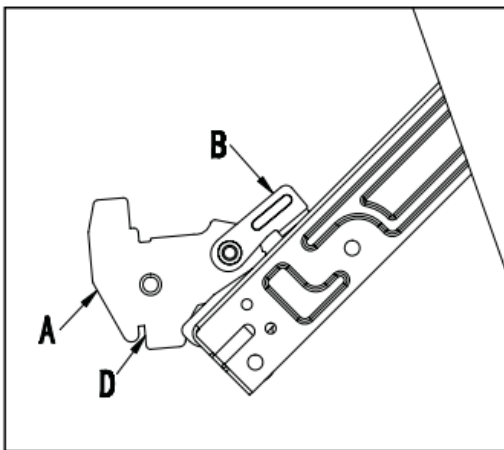

Fig 1
- > Open the door completely and lift the 2 levers “B” (fig.1);